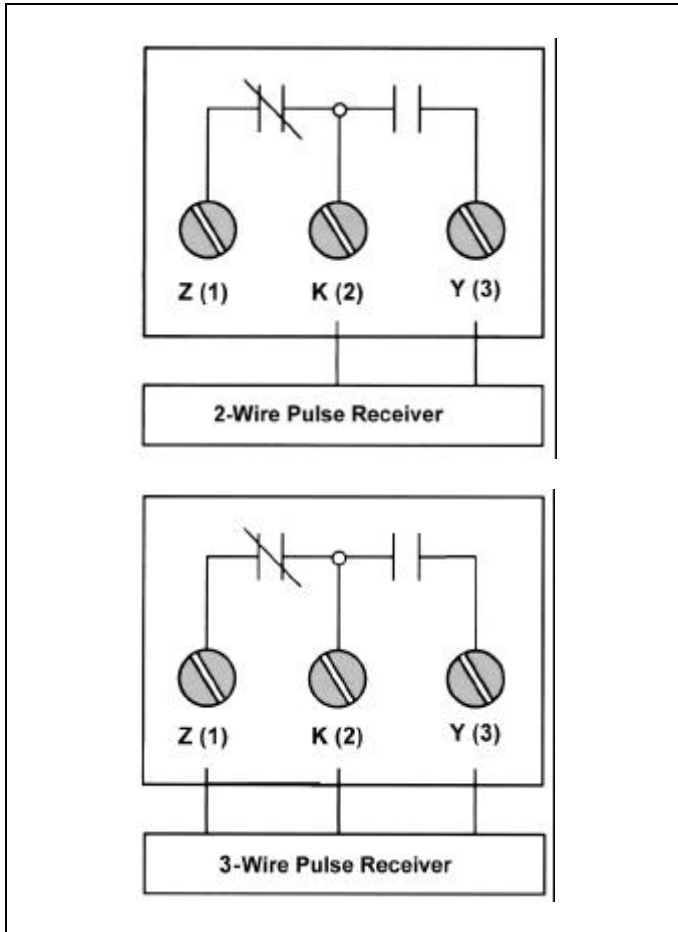

Figure 5-20 Pulse Output Connections
The **KYZ** type output can be wired to a 2-wire or 3-wire pulse receiver (Figure 5-20). Use terminal #3 (K) and terminal #2 (Y) to wire to a 2-wire pulse receiver. Use terminal #3 (K), terminal #2 (Y), and terminal #1 (Z) for a 3-wire pulse receiver.